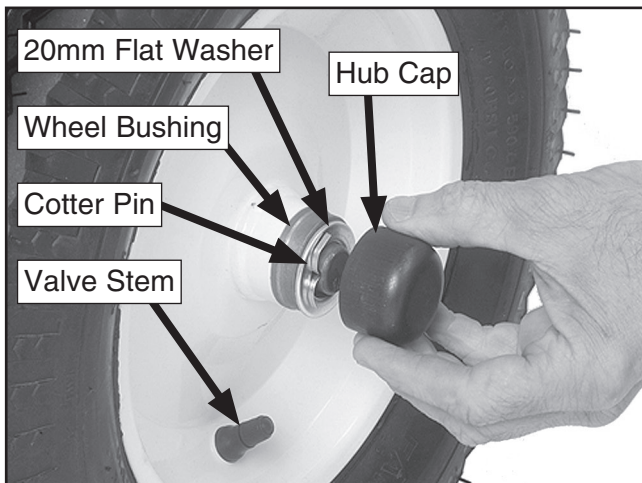

Figure 4. Attaching the wheels.
2. Place the 20mm flat washer onto the axle, then place the 3 x 30mm cotter pin through the hole in the spindle end (**Figure 4**).